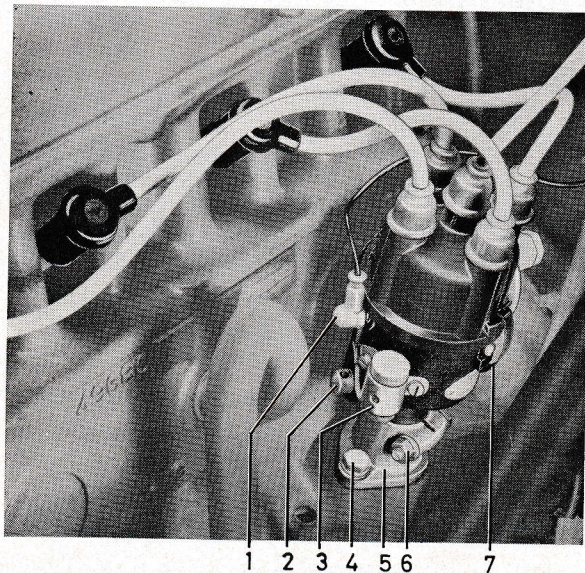

Fig. 56. Distributor fitted.
3. Disconnect the primary lead 1, Fig. 56.
5. Unscrew the bolt 6, Fig. 56 and lift up the distributor.